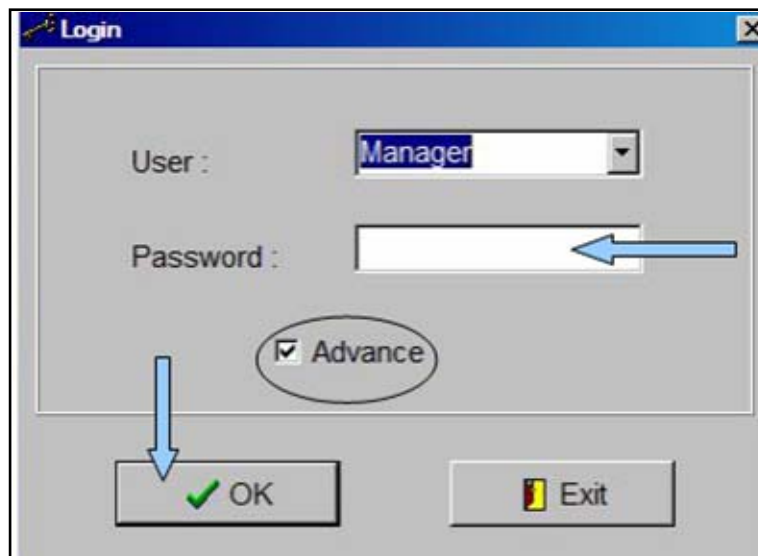

Figure 4-33. NMS Login Screen
4. Verify that the *Advance* box is checked and then click in the password field, **Figure 4-33**.